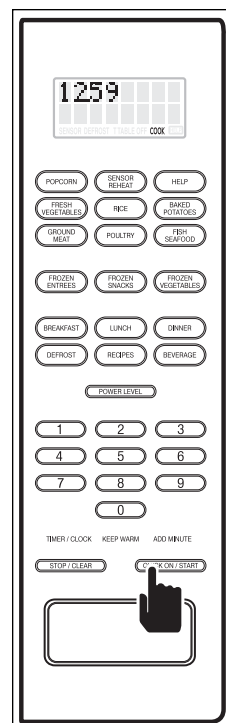

Figure 3-41.
3. Press the QUICK ON/START key to begin the Keep Warm Mode. The oven will energize and the display will flash the time as it counts down along with “KEEP WARM” (See Figure 3-41). At the end of Keep Warm Mode, “END” will flash on the display and the alarm will beep.